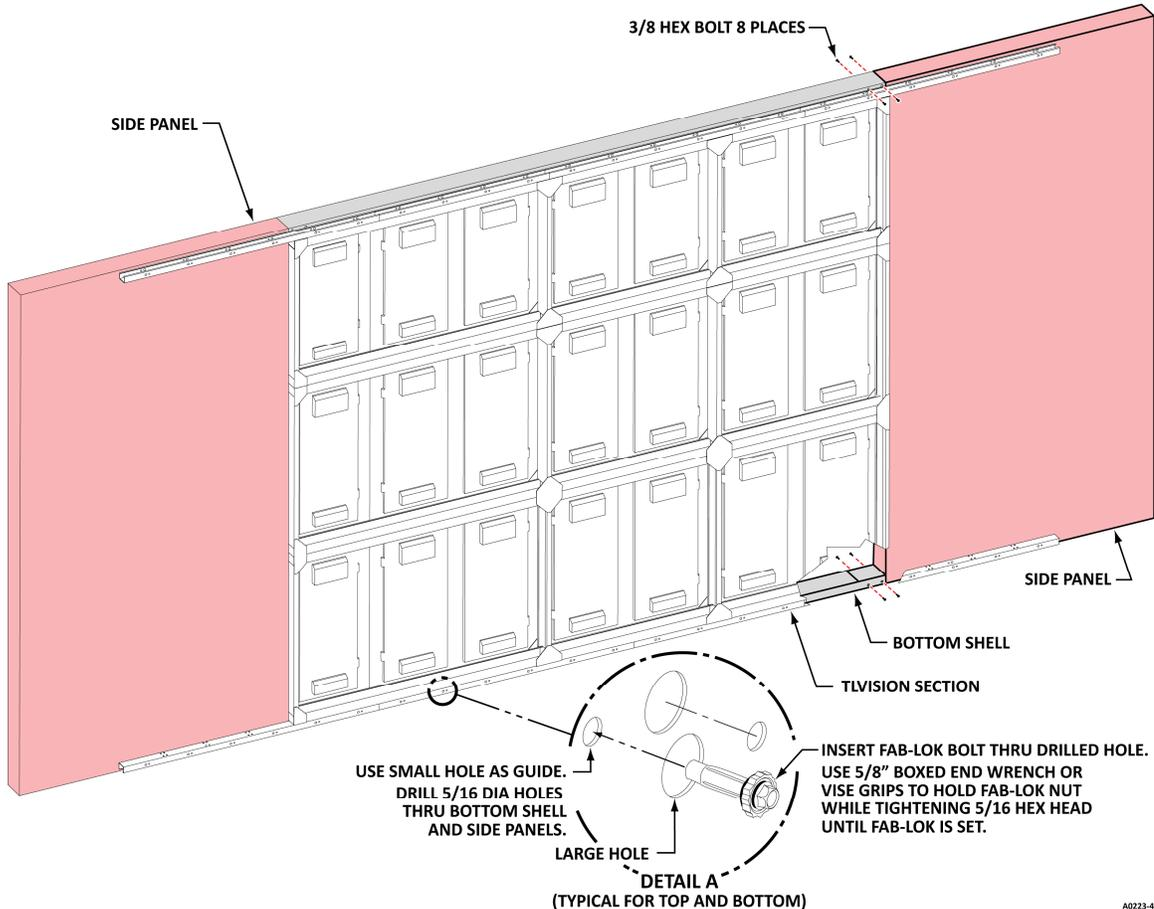

FIGURE 17 - INSTALL SIDE PANELS TO TLVISION SECTION
1. Install the Side Panel into place by inserting both top and bottom sleeves into the Top Shell and Bottom Shell. Secure with 3/8 hex bolts. See Figure 17 below.
2. Locate the guide holes on the U-Channel and use the small hole as guide to drill 5/16" holes through the left and right Side Panel frames and the Bottom Shell. See detail in Figure 17 above.